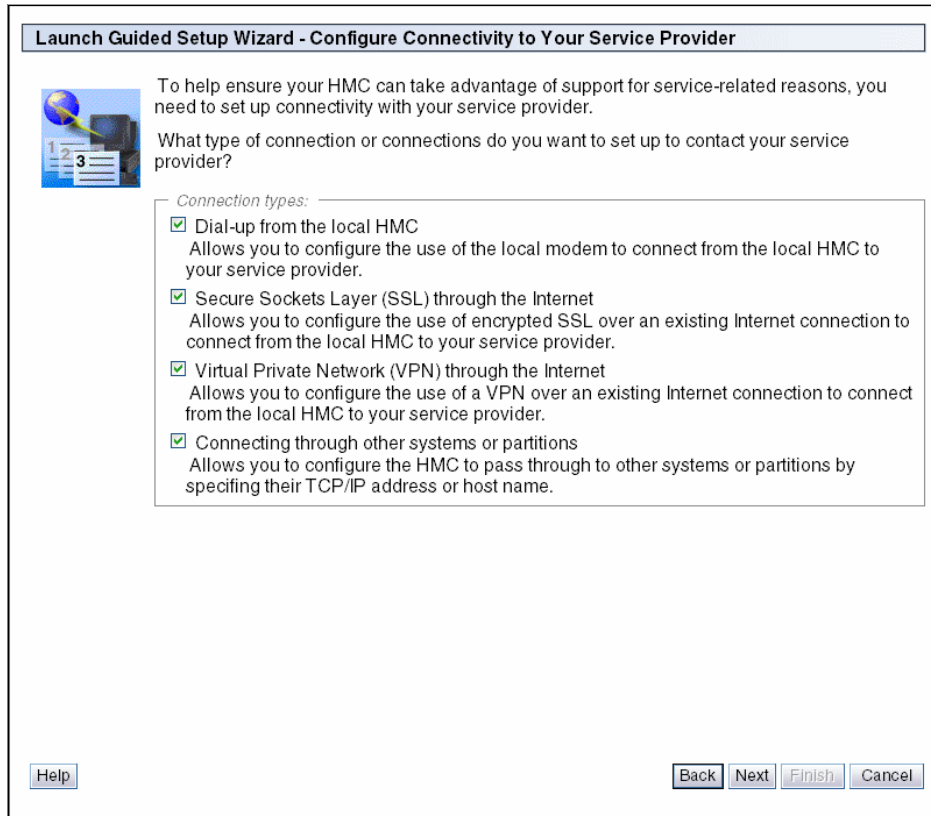

Figure 3-36 Launch Guided Setup Wizard - Configure Connectivity to Your Service Provider
29. The Launch Guided Setup Wizard - Configure Connectivity to Your Service Provider panel is now shown in Figure 3-36.